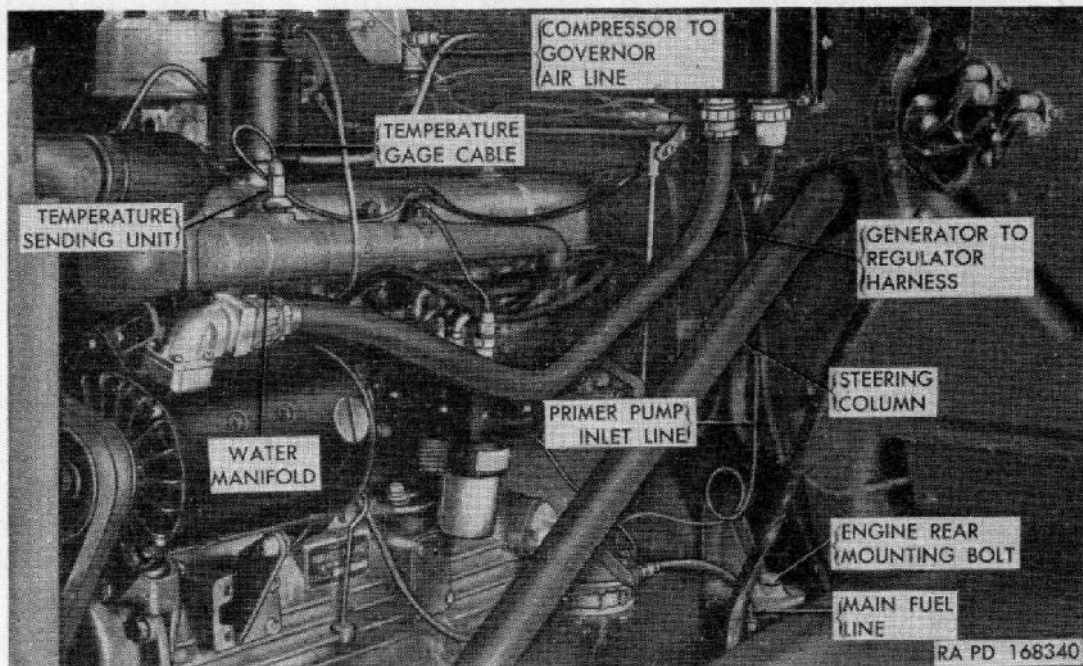
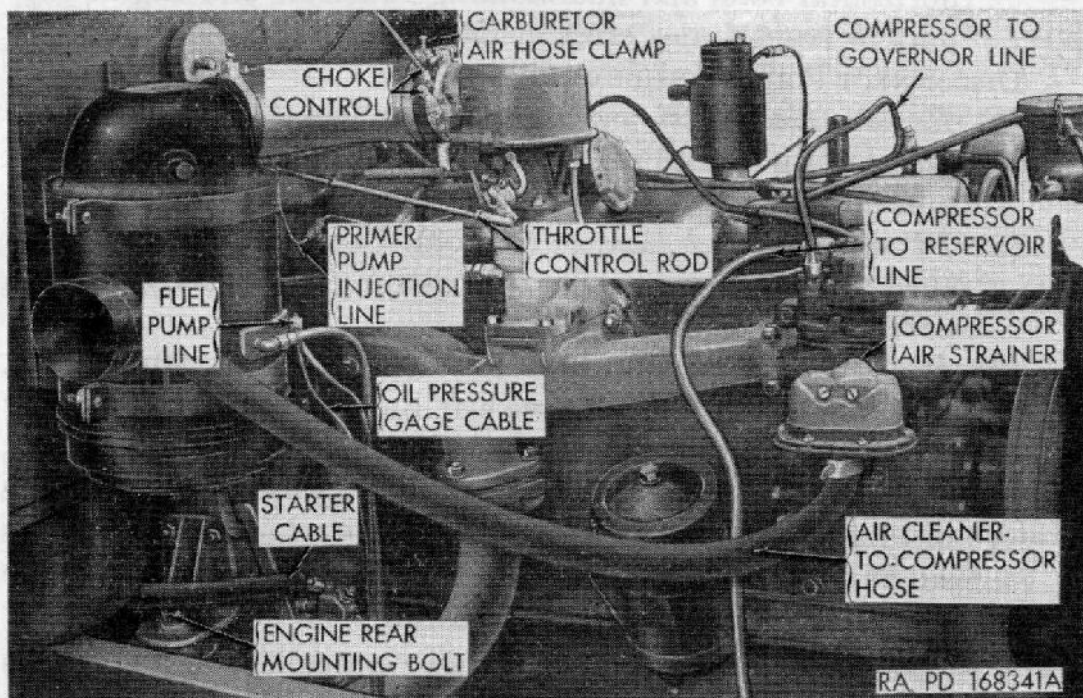
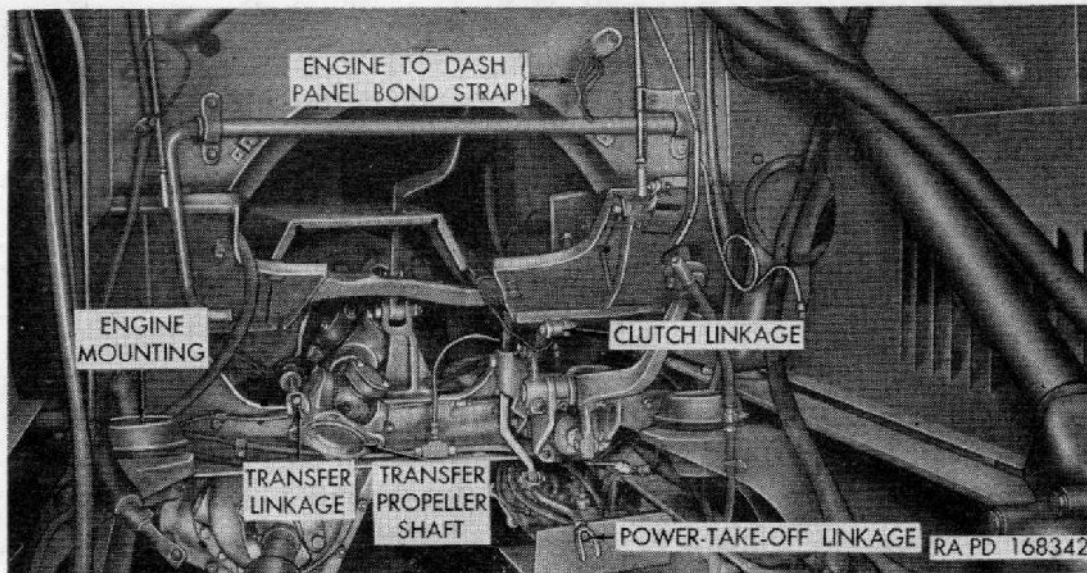

Figure 49. Disconnect points on left side of engine.
Figure 50. Disconnect points on right side of engine.
Figure 51. Disconnect points inside cab and under truck.
- (3) Disconnect and remove choke control assembly (fig. 50) from carburetor (fig. 38).
- (4) Disconnect throttle control rod (fig. 50) from carburetor-throttle lever.
- (8) Clamp the crankcase ventilation control assembly in its support bracket and secure the control wire to the shut-off-valve-lever.
- (9) Connect the crankcase ventilation line to the shut-off valve.
- (10) Connect the choke control (fig. 50) to carburetor (fig. 38).
- (11) Connect the throttle control rod (fig. 50) to carburetor-throttle lever.
b. **ACCESSIBILITY.** The disconnect points in engine compartment (figs. 49 and 50) are readily accessible when the hood is raised to its extreme height and the left and right engine-compartment side panels are lowered.
i. DISCONNECT POINTS ON LEFT SIDE OF ENGINE (fig. 49).
(1) *Electrical connections.* Disengage conduit nut at generator with standard conduit-nut wrench 41-W-329-900 (fig. 83). Pull generator-to-regulator harness from generator and lay over steering column. Disconnect distributor primary cable from distributor (fig. 69), and the temperature-gage cable (fig. 49) from sending unit on water manifold, and place harness over top of regulator. Disconnect engine-to-dash-panel-bond strap from rear of engine (fig. 51).
(2) *Fuel lines.* Disconnect primer-pump-inlet line (fig. 49) at fuel-pump intake fitting. Disconnect main fuel line at fitting in front of engine rear support.
j. DISCONNECT POINTS ON RIGHT SIDE OF ENGINE (fig. 50).
- (1) *Pressure-air lines.* Disconnect compressor-to-governor air line from governor (fig. 49), and the compressor-to-reservoir line (fig. 50) at top rear of air compressor.
- (2) *Air cleaner-to-compressor hose.* Loosen hose clamp and disconnect air cleaner-to-compressor hose at compressor air strainer.
- (4) *Oil-pressure-gage cable.* Disconnect oil-pressure-gage cable from sending unit on side of crankcase near rear of engine (fig. 50).
- (8) *Disconnect primer-pump-injection line.* Disconnect primer-pump-injection line (fig. 50) from fitting at rear of cylinder head.
k. DISCONNECT POINTS UNDER TRUCK (fig. 51).
- (1) *Disconnect exhaust pipe.* Loosen three bolts at flanges between front and rear exhaust pipes. Turn flange and separate pipes. Remove and discard gasket.
- (2) *Remove engine rear-mounting bolts.* Remove two engine rear-mounting bolts and nuts, one on each side (fig. 49).
- (4) *Aline engine-rear-mounting-bolt holes.* Aline engine-rear-mounting-bolt holes and insert bolts (fig. 49). Completely lower plant and tighten two radiator-and-engine support-bolts and two engine-rear-mounting bolts. Remove engine-lifting sling.
c. CONNECT POINTS ON RIGHT SIDE OF ENGINE (fig. 50).
- (1) *Connect compressor-to-reservoir line.* Connect compressor-to-reservoir line at top rear of air compressor (fig. 50).
- (2) *Connect air cleaner-to-compressor hose.* Connect air cleaner-to-compressor hose at compressor air strainer (fig. 50).
- (6) *Connect primer-pump-injection line.* Connect primer-pump-injection line to fitting at rear of cylinder head (fig. 50).
- (8) *Connect compressor-to-governor air line.* Connect compressor-to-governor air line (fig. 49) at governor.
- (9) *Connect oil-pressure-gage cable.* Connect oil-pressure-gage cable (fig. 50) to sending unit at rear of engine.
- (10) *Connect starter cable.* Connect battery-to-starter cable at starter.
d. CONNECT POINTS ON LEFT SIDE OF ENGINE (fig. 49).
- (1) *Connect main fuel line.* Connect flexible fuel line at fitting in front of rear engine support.
- (2) *Connect primer-pump-inlet line.* Connect primer-pump-inlet line (fig. 49) at fuel-pump intake fitting.
- (3) *Install engine-to-dash-panel-bond strap.* Install engine-to-dash-panel-bond strap at rear of engine (fig. 51).